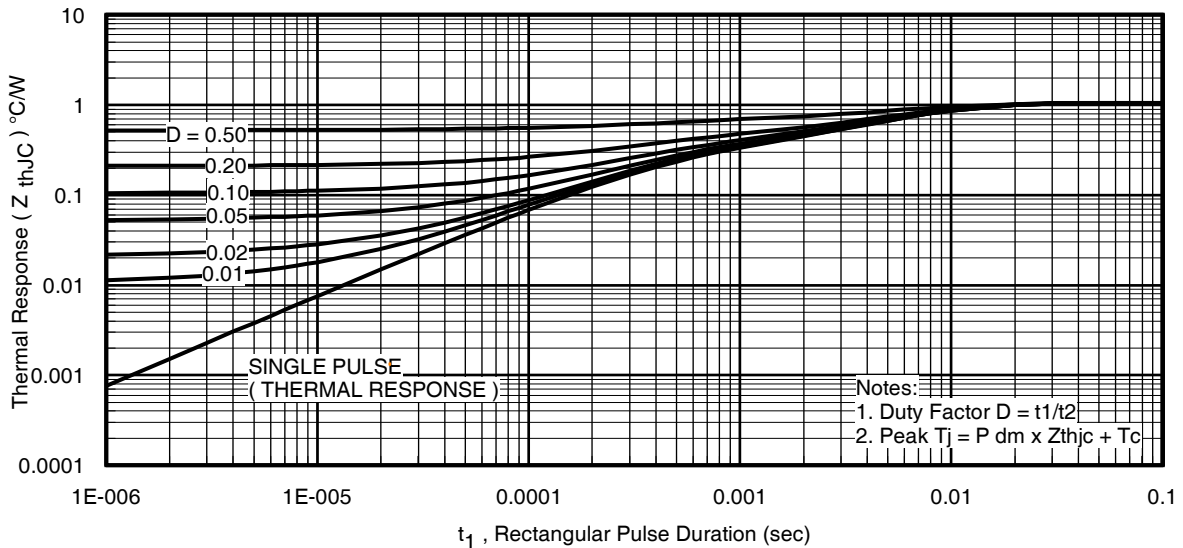

Fig 11. Maximum Effective Transient Thermal Impedance, Junction-to-Case
- ① Repetitive rating; pulse width limited by max. junction temperature. (See fig. 11).
- ② Limited by T_{Jmax} ; starting $T_J = 25^\circ\text{C}, L = 0.399mH$
Z_{thJC}(D, t_{av}) = Transient thermal resistance, see figure 11)